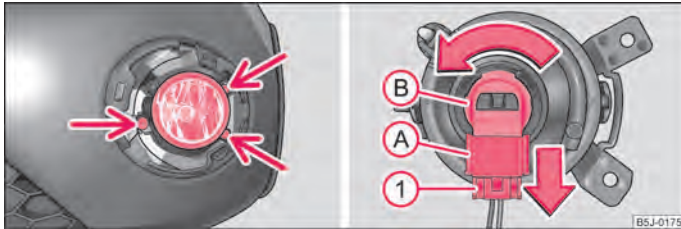

Fig. 163 Front bumper: Fog lights/changing the bulb
- Use the screwdriver to unscrew the screws from the car tool kit 1) ⇒ fig. 163 - left.
- Press the locking button ① ⇒ fig. 163 of the plug (A) and remove the plug from the socket (B).
- Turn the socket (B) with the bulb to the left up to the stop and take it out.
- Connect the plug (A) to the socket (B).